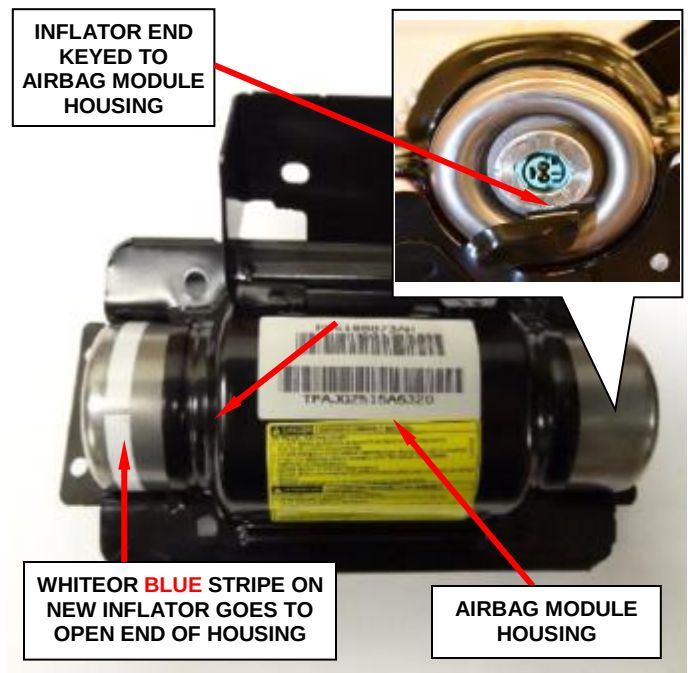

Figure 82 – Install New Inflator to Housing
NOTE: The inflator's key MUST line up with the housing's key (Figure 82).
- l. Slide the **NEW** inflator into the passenger airbag module housing. The keyed end is inserted first; therefore, the white stripe on the **NEW** inflator will be located at the open end (Figure 82).